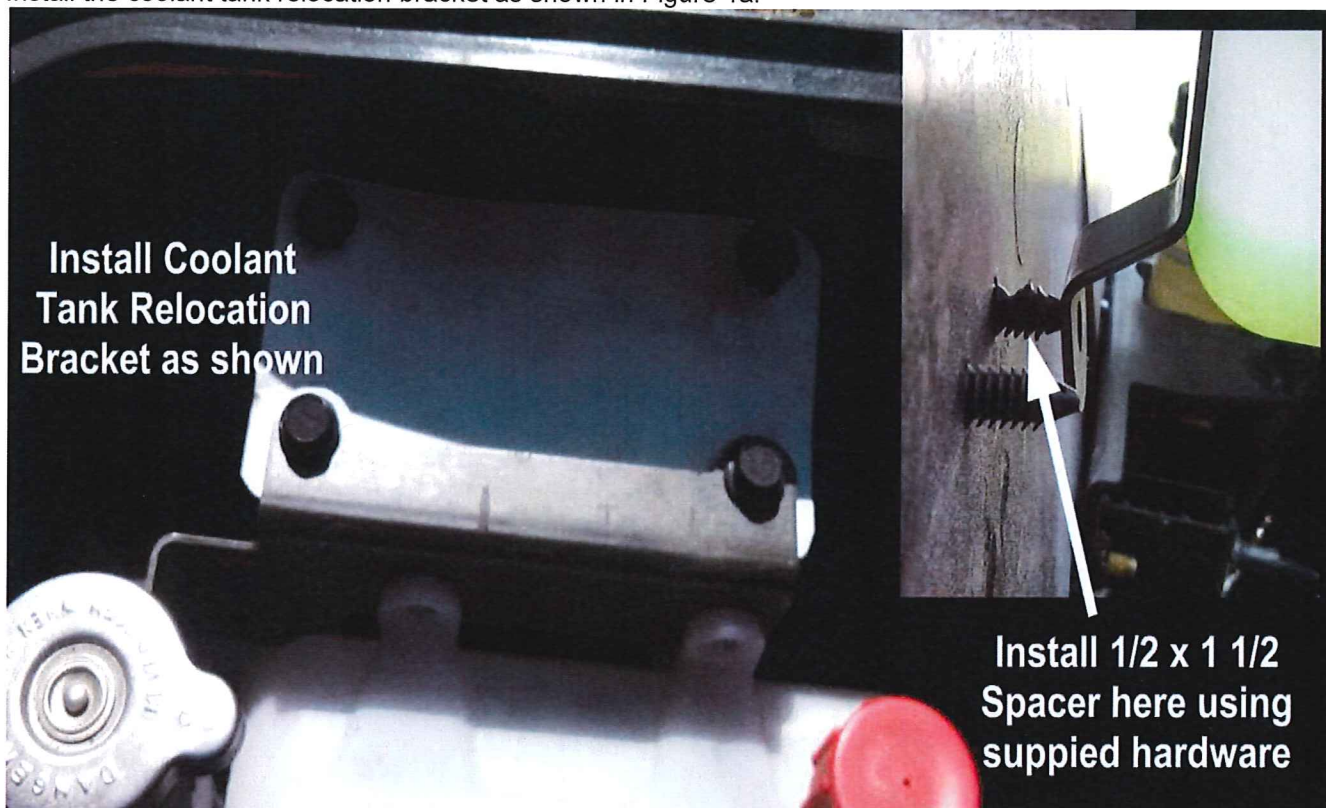

Figure 1a
3. Install the coolant tank relocation bracket as shown in Figure 1a.
6. Install the $\frac{1}{2}$ " x $1 \frac{1}{2}$ " Spacer in the position as shown in Figure 1a.